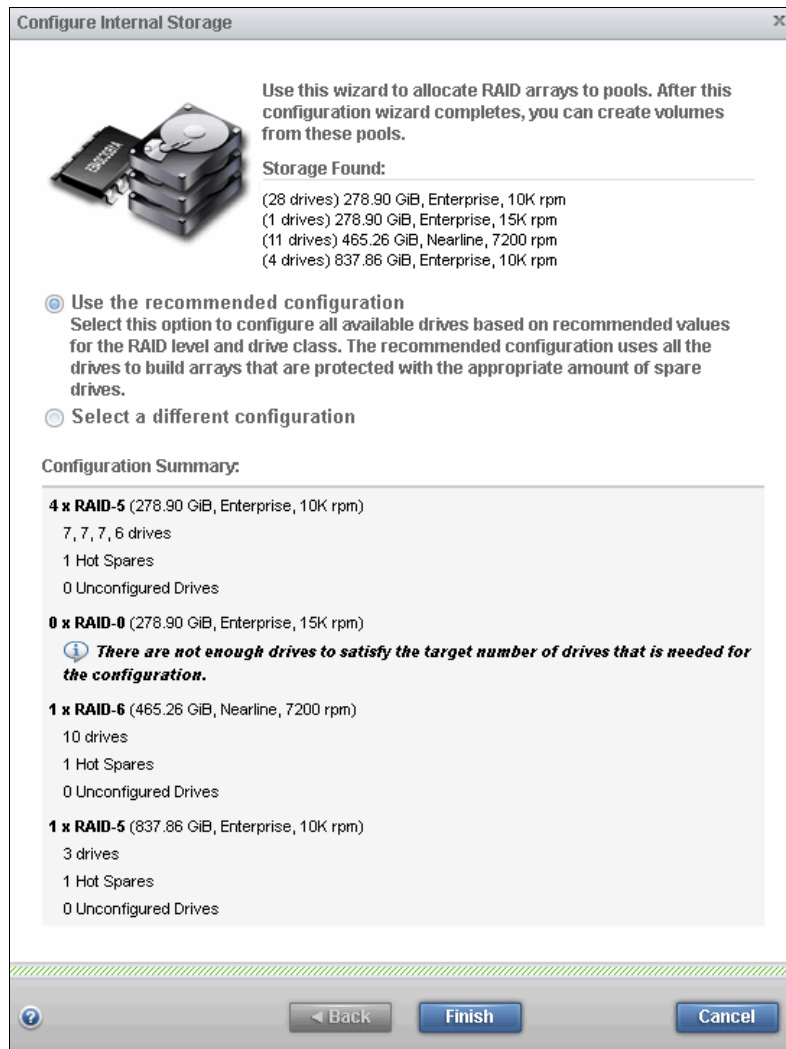

Figure 7-25 The recommended configuration
1. As shown in Figure 7-25, when you click **Use the recommended configuration**, the wizard offers a recommended storage configuration at the bottom of the window.